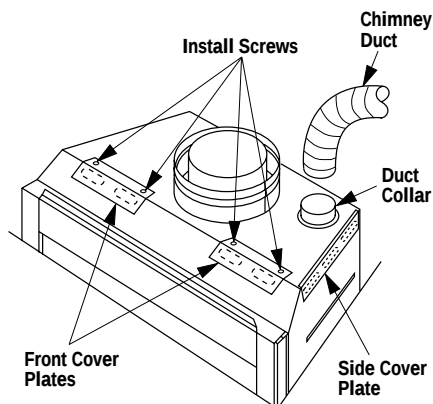

Figure 18
Step 5. Install the Cold Climate Kit to the fireplace following the instructions provided with the kit, (**Figure 18**).